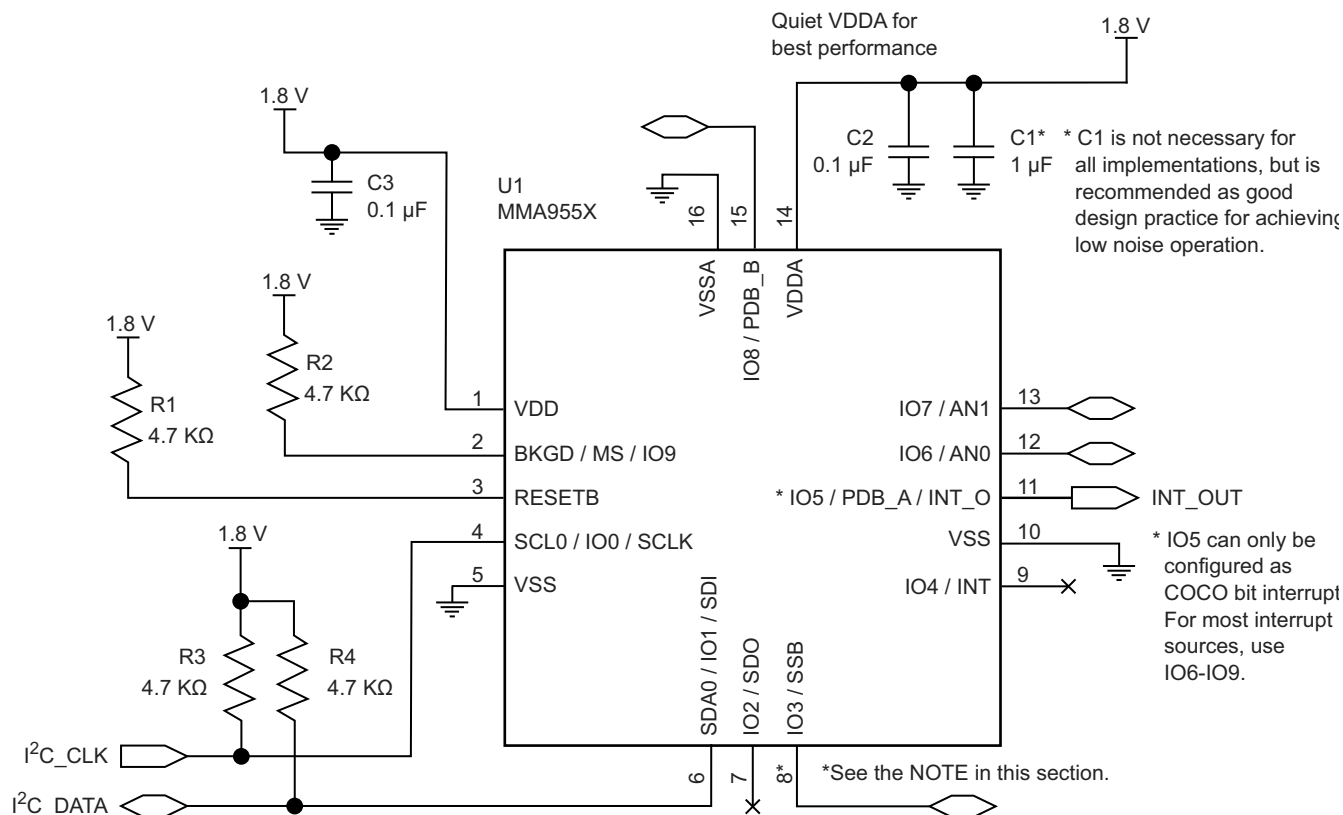
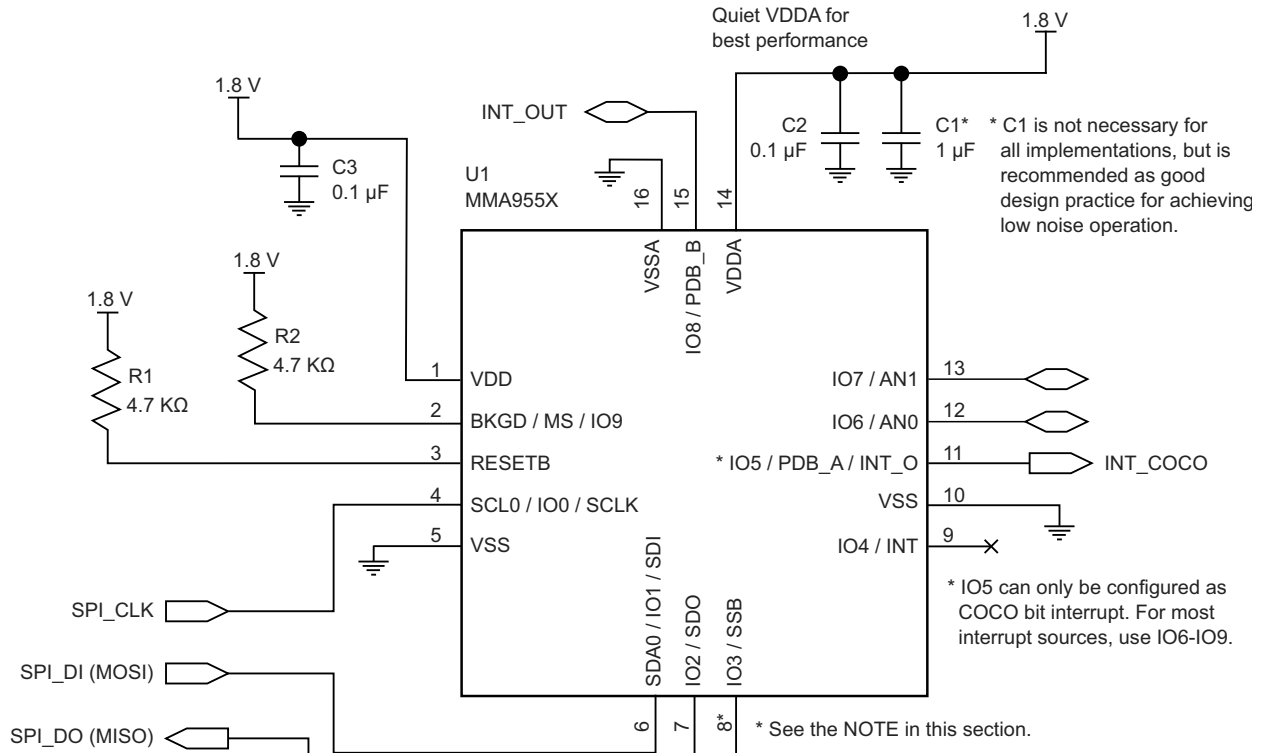

Figure 3. MMA9555L Pedometer Sensor as an I2C slave
Figure 4. MMA955L Pedometer Sensor as an SPI slave
**$V_{DDA}$  and  $V_{SSA}$ :** Analog power and ground.  $V_{DDA}$  is nominally 1.8 V. To optimize performance, the  $V_{DDA}$  line can be filtered to remove any digital noise that might be present on the 1.8 V supply. (See Figure 3 and Figure 4.)